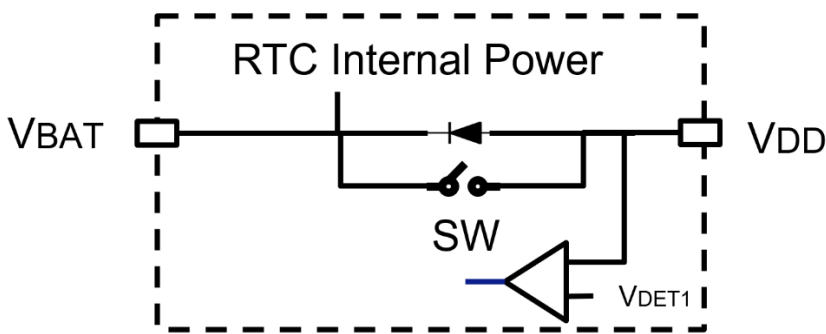

Figure 28 Battery Backup Switchover Function Block Diagram
This function can detect voltage drop of  $V_{DD}$  and switchover power supply from  $V_{DD}$  to  $V_{BAT}$ . This function circuit comprises the comparator detector “VDET” which detect the power down of the main power source “ $V_{DD}$ ”, and built-in MOS switch (SW) and a diode located between the main power-source pin “ $V_{DD}$ ” and the backup power supply pin “ $V_{BAT}$ ”. Refer to Figure 28.